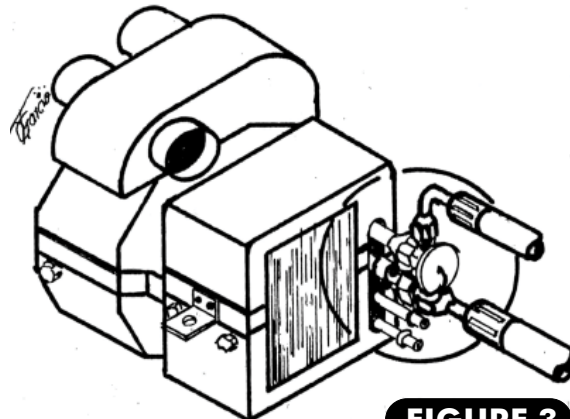

FIGURE 3
9. INSTALL AND TIGHTEN EVAPORATOR FITTINGS WITH HOSE ATTACHED TO THE EVAPORATOR. PLACE THE EVAPORATOR ON A WORKBENCH AND TIGHTEN EACH CONNECTION WITH TWO WRENCHES: ONE ON THE FITTING AND ONE ON THE COUNTERPART FITTING ATTACHED TO THE EVAPORATOR (SEE FIGURE 3, BELOW).